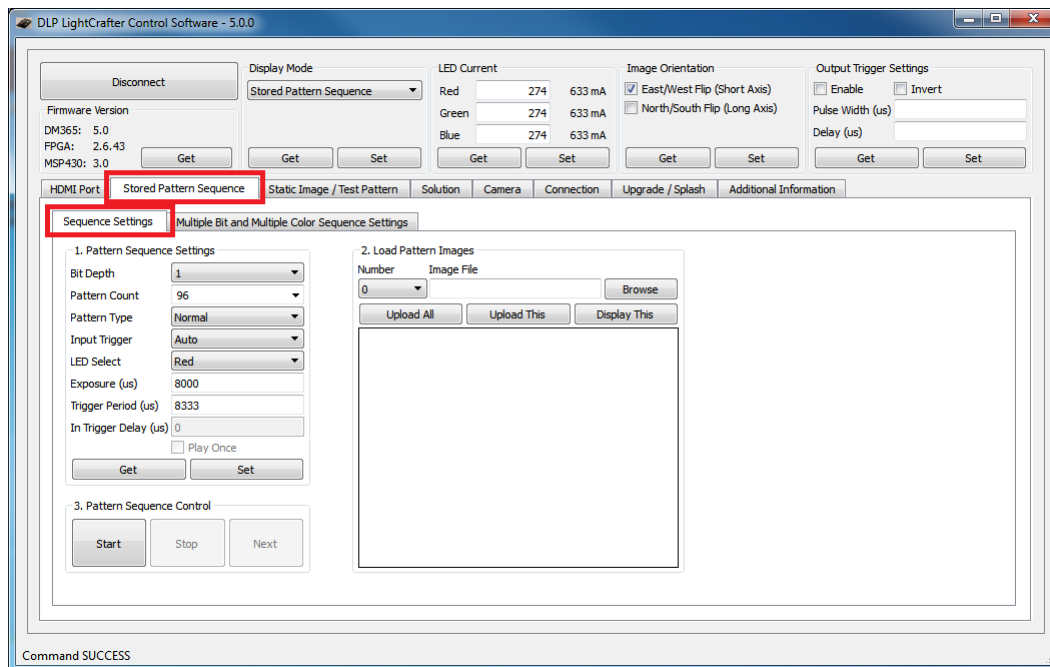

Figure 2-36. DLP LightCrafter GUI Sequence Settings Tab in Stored Pattern Sequence Tab
2. Select the "Stored Pattern Sequence", then the "Sequence Settings" tab as shown in Figure 2-36.